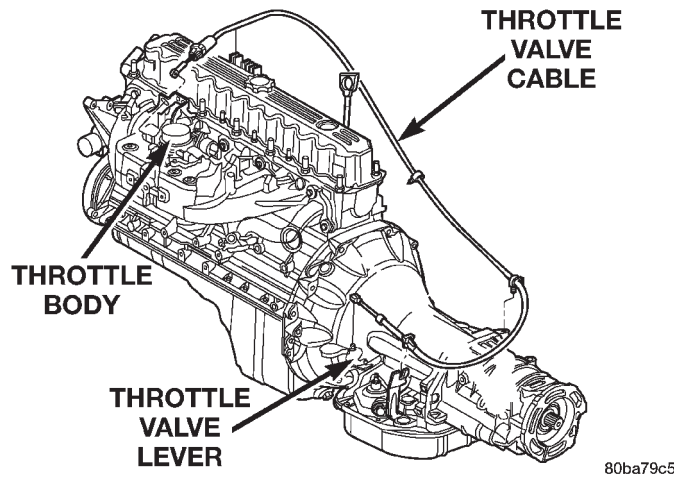

Fig. 16 Throttle Valve Cable
(18) Disconnect throttle valve cable from transmission bracket and throttle valve lever (Fig. 16).